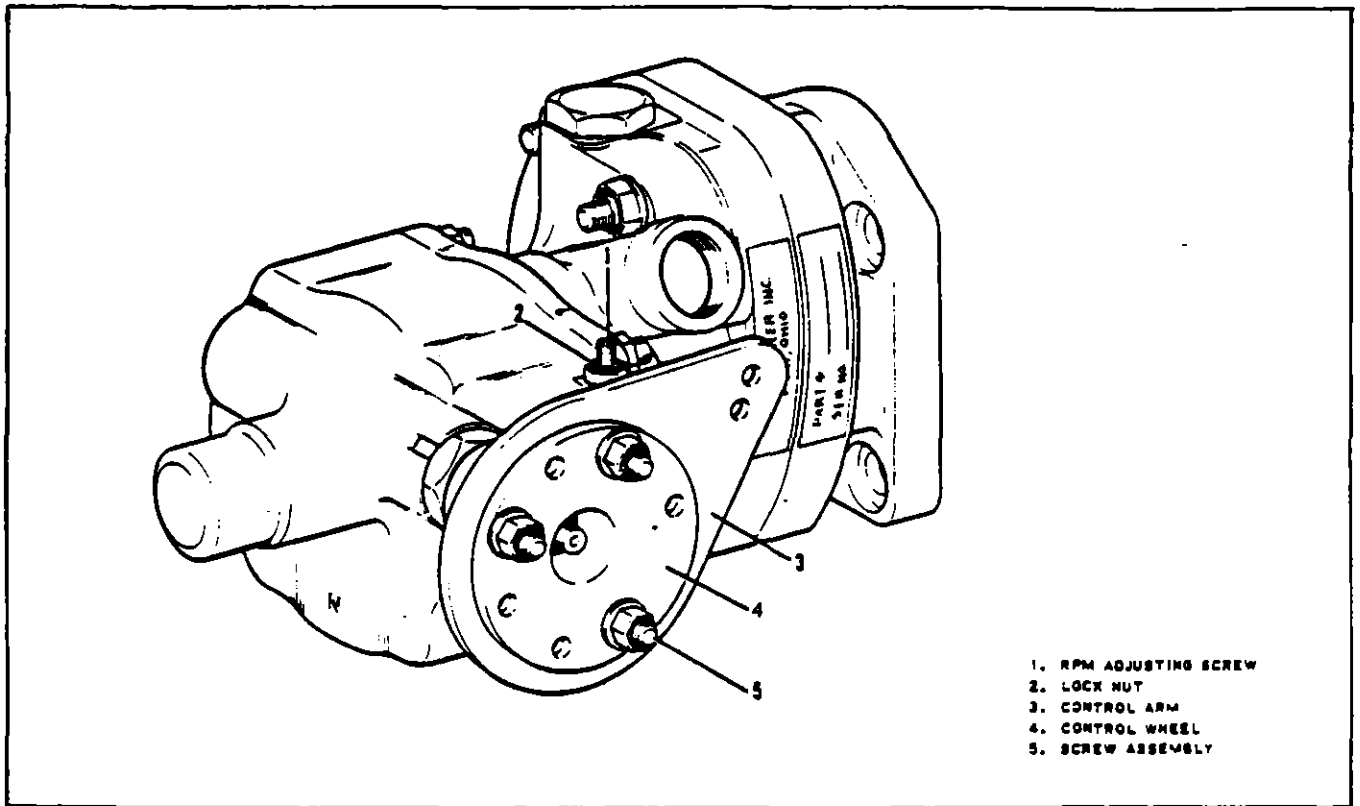

**FIGURE 7A-5. WOODWARD PROPELLER GOVERNOR ADJUSTMENT POINTS**
**7A-27. Adjustment Of Propeller Governor. (Hartzell) (Refer to Figure 7A-6.)**